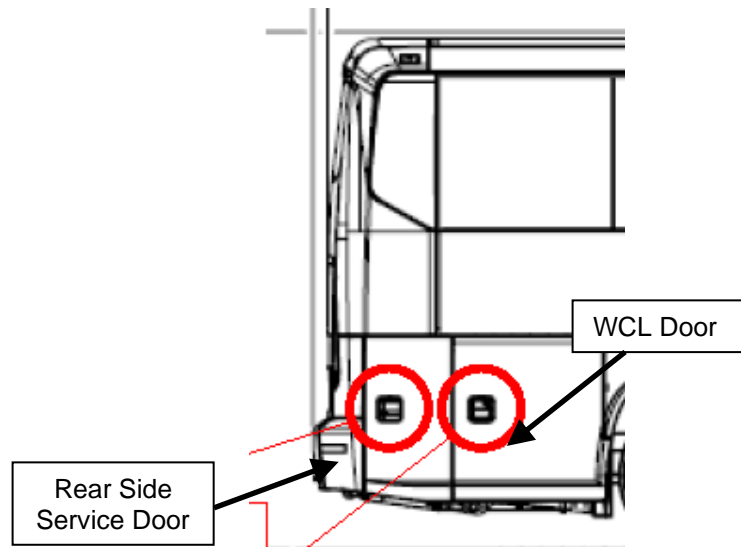

Figure 1: Lock Handle Locations Rear Right of Coach
3. Locate the wheelchair lift door and the rear side service door as shown in Figure 1.